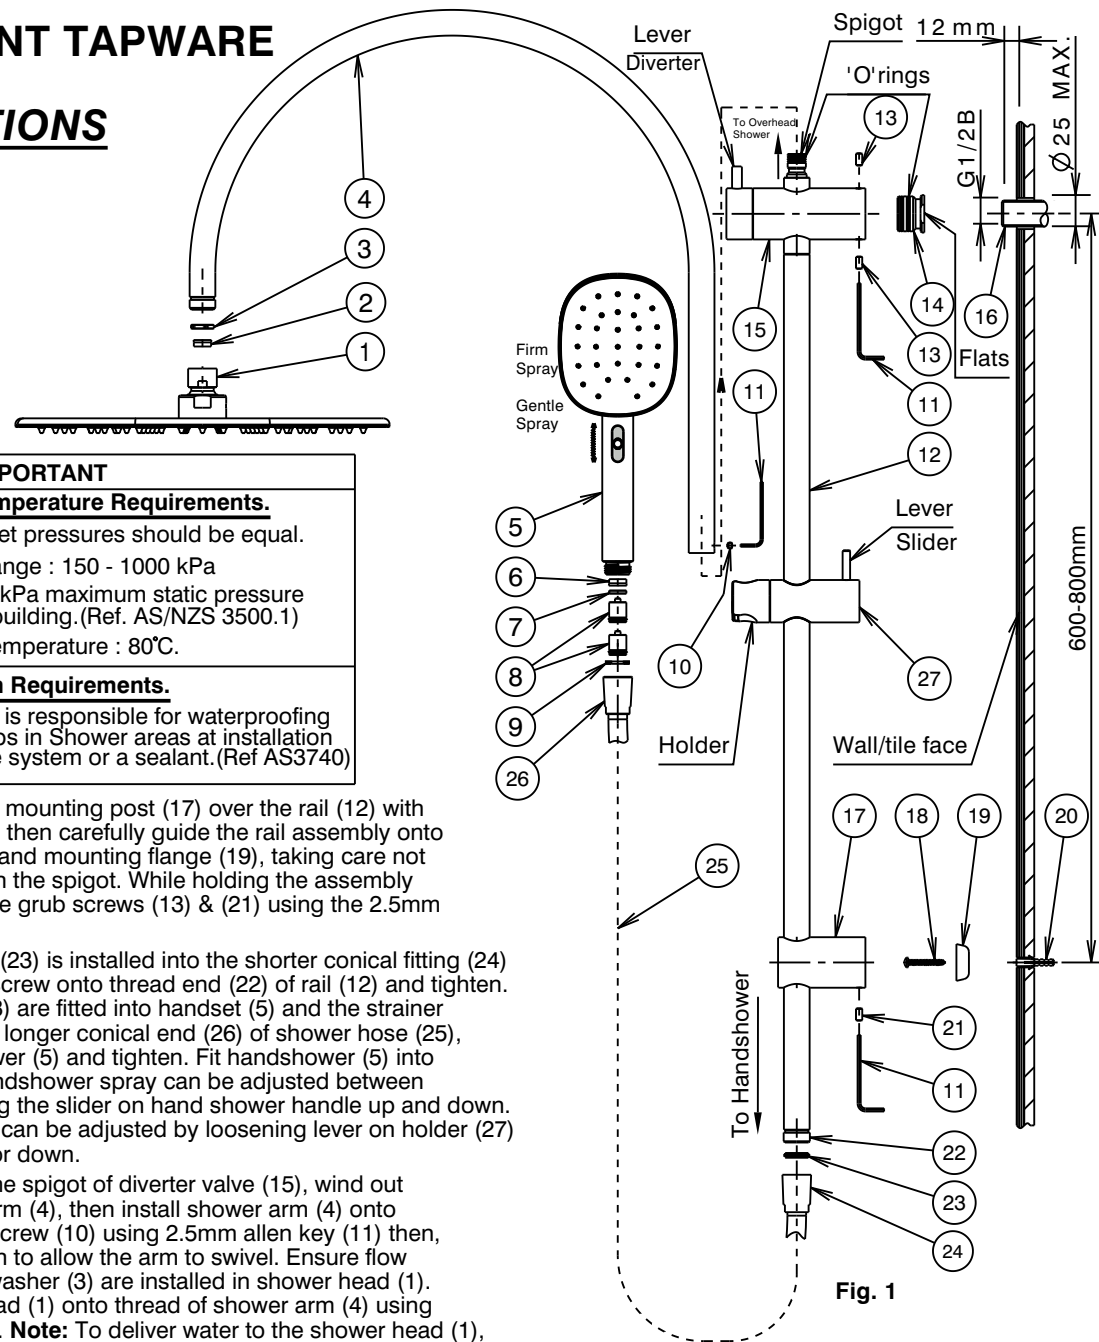

Fig. 1
- 2) Screw adaptor (14) onto threaded nipple (16) until adaptor (14) is held securely against wall/tile face. **DO NOT OVERTIGHTEN.** Apply suitable lubricant to 'O' Rings on adaptor (14).
- 3) Mark the position for the shower rail mounting post (17) at a suitable distance from the threaded nipple (16). (**Fig 1.**)
- ii) Insert tapered end of wall plug (20) into drilled hole and tap until flush with surface.